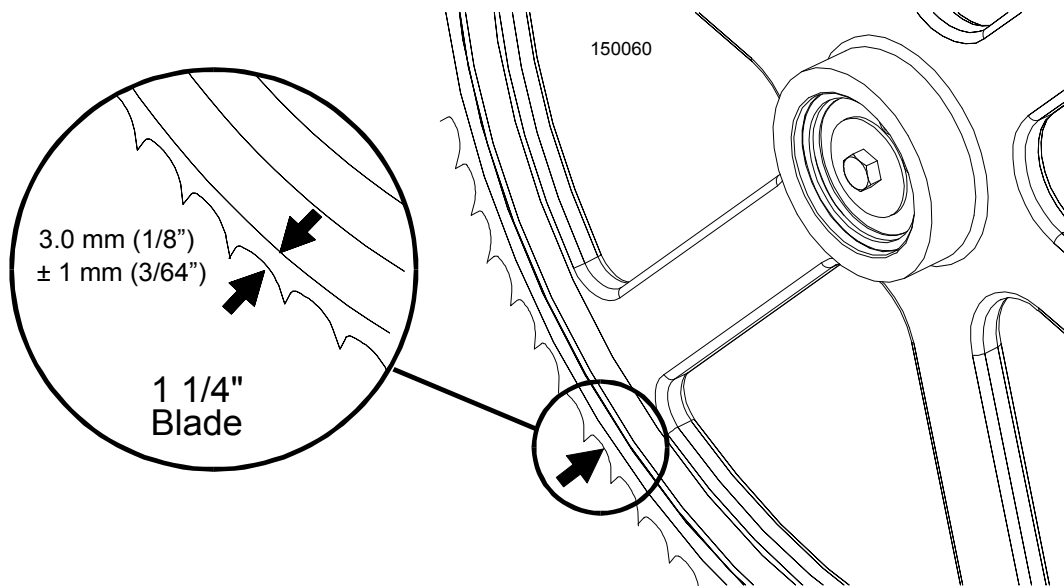

**FIG. 4-5**
**See Figure 4-5.** Use the vertical adjustment screws to adjust the idle-side blade wheel. To tilt the wheel up, loosen the bottom adjustment screw one quarter turn. Loosen the jam nut on the top adjustment screw and tighten the screw. Tighten the top and bottom jam nuts.